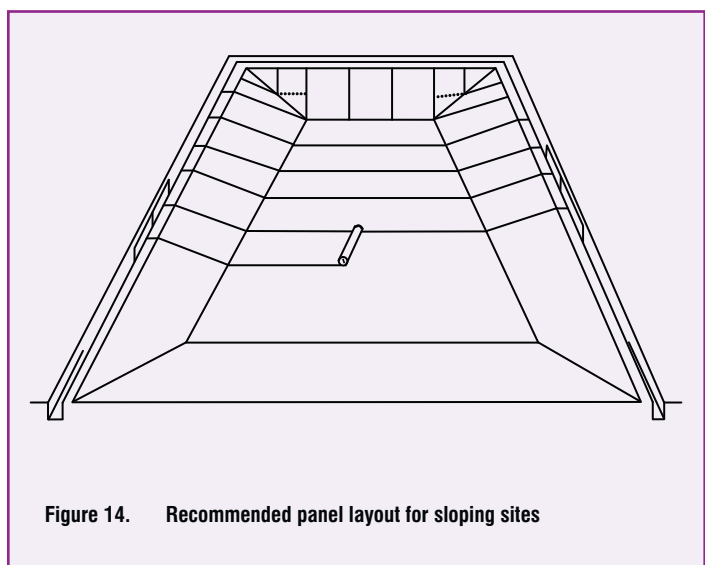
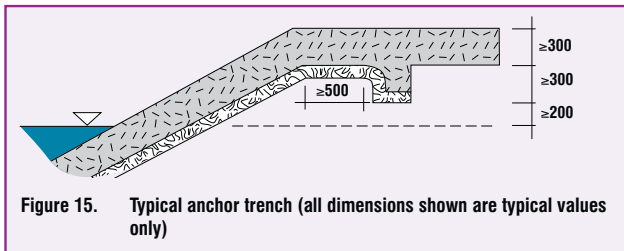

Figure 14. Recommended panel layout for sloping sites
Figure 15. Typical anchor trench (all dimensions shown are typical values only)
- An anchor trench should be used at the top of slopes steeper than 7H: 1V. (see Figure 15 for a typical anchor trench detail).
ELCOSEAL® panels should be deployed in the direction of the slope as per Figure 14 and anchored at the crest of the slope (Figure 15). End (or transverse) overlaps on steep slopes should be avoided. If they are unavoidable, the panels should be placed according to the roof tile principle and intermediate anchorage on the slope may be required.